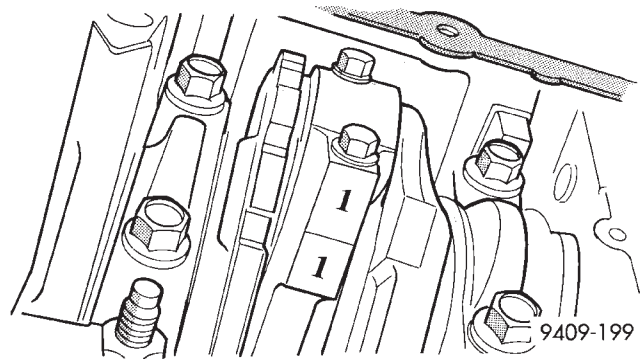

Fig. 93 Identify Connecting Rod to Cylinder Position—Typical
- (4) Mark connecting rod and bearing cap positions using a permanent ink marker or scribe tool (Fig. 93).